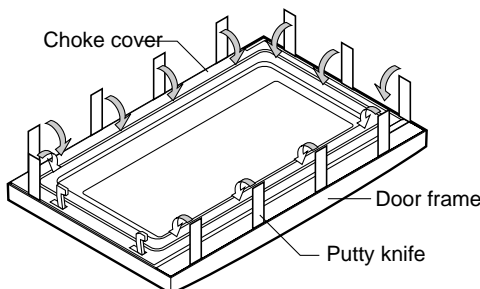

Figure C-6. Door Disassembly
5. Insert a putty knife (thickness of about 0.5mm) into the gap between the choke cover and door frame as shown in Figure C-6 to free engaging parts.
6. Pry the choke cover by inserting a putty knife as shown Figure C-6.